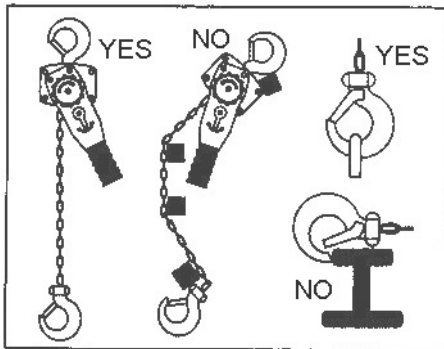

FIGURE 1
3. DO NOT install with hooks and chain out of alignment.(FIGURE 1)
7. Be sure load is secured in saddle of hook. AVOID TIP LOADING (FIGURE 1). DO NOT OVERLOAD.
2. Attach hooks and chain linearly to avoid undue strain. (PRECAUTION 3, FIGURE 1)